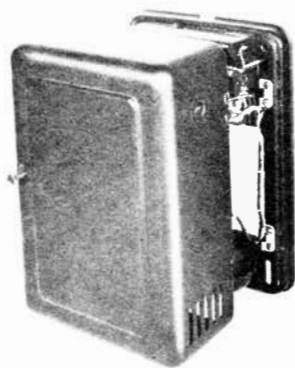

Fig. 2 — Hinges Reversed
- Remove hinges, and replace them on base in reverse position (see Fig. 2).